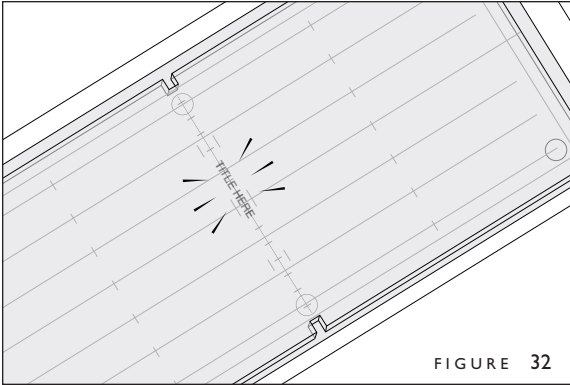

FIGURE 32
1. Place your printed sheet (wrap) face-up on the cutting surface on top of the Image Wrapper. Place the correct size of clear plastic cutting template on top of the printed wrap and align the spine along the center line (Figure 32).